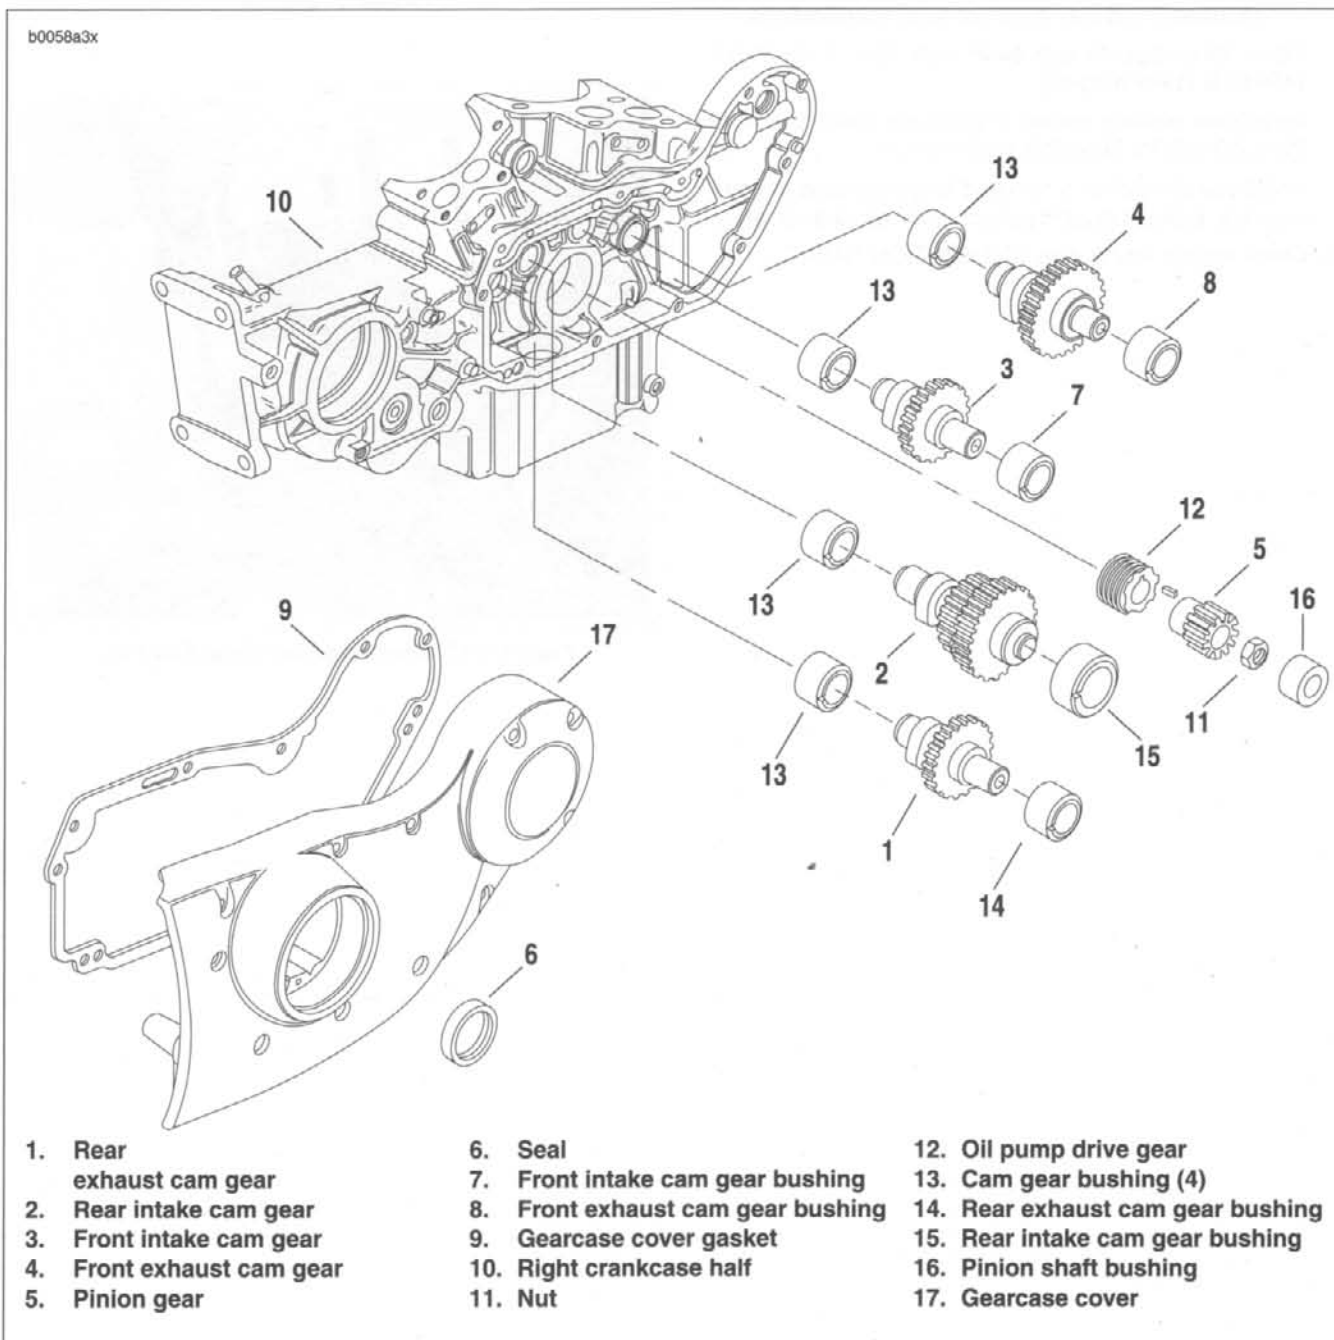

Figure 3-79. Gearcase and Valve Train Components
1. See Figure 3-79. Thoroughly clean area around gearcase cover (17) and tappets. Blow loose dirt from crankcase with compressed air.
7. Place a pan under gearcase to collect oil. Remove cover screws. Carefully remove gearcase cover. Discard old gasket (9).
1. See Figure 3-79. Bushings (7, 8, 13, 14, 15 and 16) are press fit in gearcase cover (17) and crankcase. Inspect each bushing against its corresponding cam gear shaft or pinion gear shaft. See Table 3-13.
1. See Figure 3-79. Using an arbor press, install each bushing (7, 8 and 14) in its gearcase cover (17) bore so that bushing shoulder contacts cover boss. Orient each bushing so the oiling slot is at the 9 o'clock position within the gearcase cover bore.
1. See Figure 3-79. Rear intake cam gear bushing (15) must be installed in its gearcase cover (17) bore using an arbor press. You will need to orient the bushing in a specific position of rotation within the cover bore, and will need to drill a lubrication hole in the bushing, according to the following procedures.
1. See Figure 3-79. Using an arbor press, install pinion shaft bushing (16) in its gearcase cover (17) so that bushing is flush with cover boss. There is no need to orient this particular bushing in any specific position of rotation within the gearcase cover bore.
1. See Figure 3-79. Bushings (7, 8 and 14) to be reamed must be installed in gearcase cover (17) as described in BUSHING INSTALLATION. Attach gearcase cover to right crankcase half (10), which has been disassembled from left crankcase half, securing with a minimum of three mounting screws.